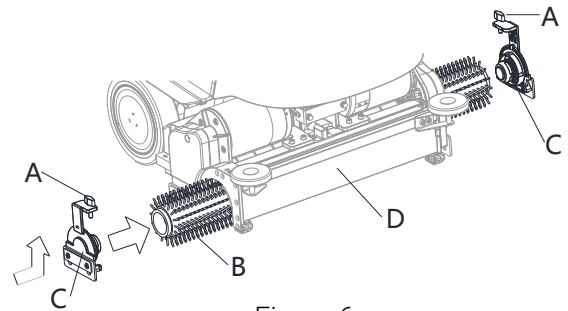

Figure 6
1. Make sure that the cylindrical deck (47) is lifted.
2. Turn off the machine with the power button (62).
3. According to the kind of cleaning to be performed, install the brush (B, Fig. 6) and note the following:
- Release the screw (A) and remove the side hook (C) from brush deck (D).
- Install the brush (B) in the deck (D). Install the side hook (C) for brush and lock the screw (A).